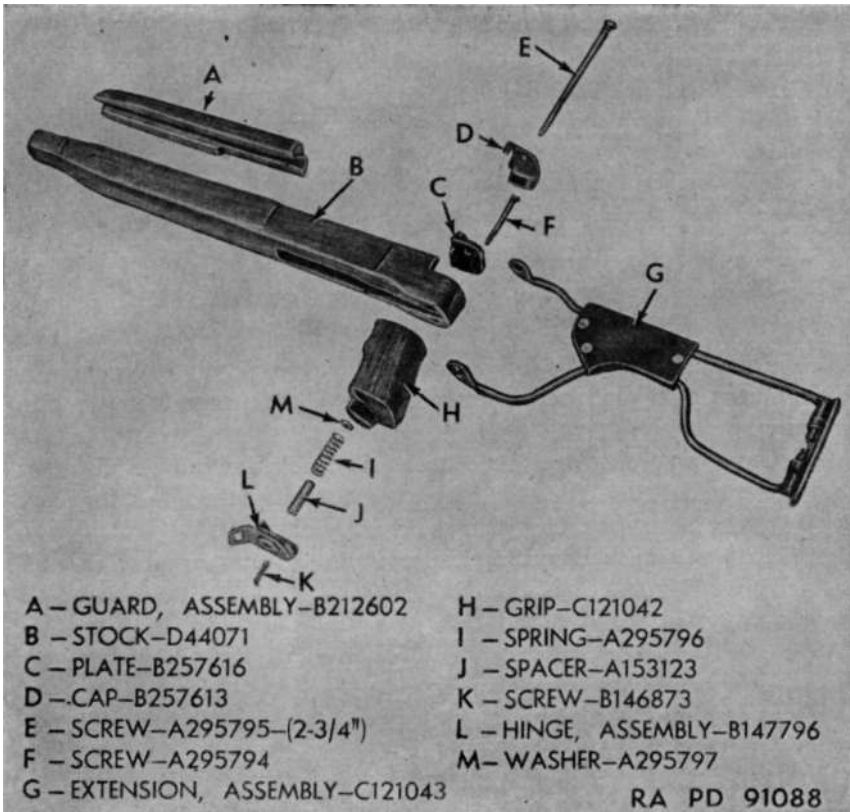

Figure 58. Stock extension group parts — carbine, cal. .30, M1A1.
(2) With stock extension in extended position, unscrew the hinge screw projecting from the upper face of the recoil plate cap, by turning counterclockwise. When screw is disengaged from the lower hinge nut, pull screw up and out of grip, and then lift off recoil plate cap and lower hinge. (See fig. 58.)
(3) With flat-ended punch, push hinge screw spacer out of hole in the lock on end of lower bar, up into coil spring. Then pull stock extension to rear from stock and remove grip spring, hinge screw spacer,
(11) Inspect hinge on upper bar for deformation and cracked welding, and lock on corresponding end of lower bar for deformation, cracked welding, and worn locking lug (fig. 58). The proper mating of lock and nut determine the rigidity of the stock extension when extended or folded. Angle of lock faces should correspond to that of the nut. Wear of lock or nut will cause improper locking and looseness.
(12) Inspect bars for deformation. They should lie in the same vertical plane when assembled.
(13) Inspect butt plate for smooth pivoting on rod ends, for spring action with spring assembled, and for cracks.
(14) Inspect butt plate spring for tension, excessive deformation, and broken or bent ends.
(15) Inspect cheek rest plate and retaining plate (fig. 58) for deformation and looseness with each other on the bars when assembled. Inspect rivets for looseness and protrusion of heads. Inspect cheek rest cover for scoring and cracking of leather. Cheek rest plate should be held tightly to rods by retaining plate and rivets, and leather cover should be smooth, so it will not scrape face of operator.
b. RECOIL PLATE (EXCEPT M1A1.) (1) If escutcheon has been removed, insert small end first in seat in lower face of stock grip. Tap in until seated level and flush with stock.
(2) Insert recoil plate into rear of receiver aperture in stock with bevel face up and tang to rear. Recoil plate must be inserted from front to rear and held level during insertion, so that seating lug and horizontal recess mate. Seat recoil plate evenly and flush with recess in stock by tapping lightly. Replace recoil plate screw through top of recoil plate and stock grip, thread into escutcheon, and draw down part way. Then assemble barrel and receiver group to stock, align, and draw screw down tight. This prevents a strain on the parts (par. 11f).
d. STOCK EXTENSION (M1A1) (fig. 58). (1) If the grip and recoil plate have been removed, replace them by fitting grip to rear, under face of stock, just behind trigger guard opening so that projection on grip points downward and trigger guard bow will fit into forward face of grip when assembled. Then seat recoil plate on top of rear end of stock with undercut lug facing forward. Align screw holes in plate and stock, insert grip screw, and screw down tightly, turning clockwise, to secure recoil plate, stock, and grip firmly together.
(2) Place grip spring washer in large counterbored hole in lower end of grip and seat grip spring in hole upon washer. Then grasp stock extension so that locking lug on lower bar faces downward and place upper face of lock against lower end of grip spring. Hold in position firmly and press upward on lock against spring pressure until hinge on upper (straight) bar will slip over and lie upon top of recoil plate. Still holding lock in position with regard to spring, align hole in spring and lock, and insert hinge screw spacer until flush with lower face of lock.
(3) Position recoil plate cap over recoil plate and upper hinge so that it rests flat on hinge and recoil plate. Insert hinge screw through hole in cap and push downward through hinge, recoil plate, stock, grip, grip spring washer, grip spring, spacer, and lock on lower bar. Be sure screw is pushed down until upper shoulder on screw has entered the hole in upper hinge and is not bearing on cap, or top of hinge.
(4) Position lower hinge assembly over lock so that locking lug slot in nut mates with locking lug on lock, and sling eyelet faces forward. Then, press nut and lock upward against force of grip spring and turn hinge screw until threads on hinge screw catch threads in nut. (Be sure spacer is flush with lower face of lock before attempting to catch threads.) Turn screw so that nut pulls lower hinge upward until lower hinge shell is resting firmly upon lower face of grip.
(5) Insert lower hinge screw in lower end of stock grip and turn in